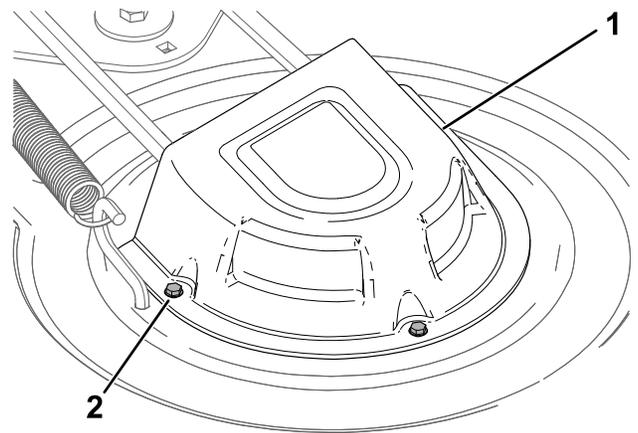

Figure 55
5. Loosen the screws and remove the pulley covers (Figure 55).